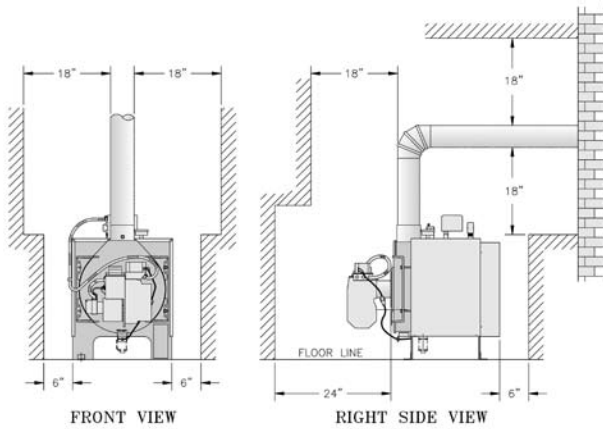

Figure 2: Minimum Installation Clearances To Combustible Materials
- For minimum clearances to combustible materials See Figure 2.